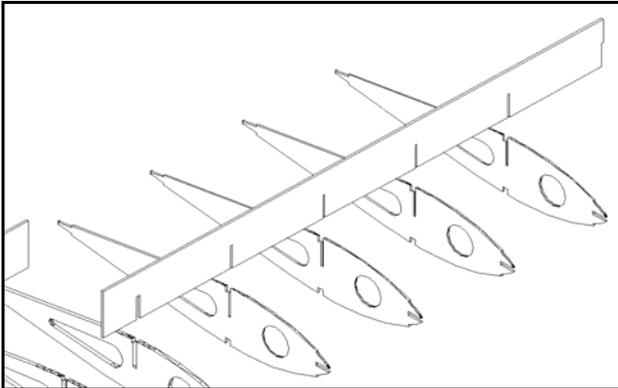

Figure 1
2. Assemble spar crutch (Part W8), Ribs (W1 and W6). (Fig. 1 and 2) NOTE: Because of different wood weights, it is recommended that you divide the two rib sheets (W6) between the two wing halves. This will help to balance the wing.